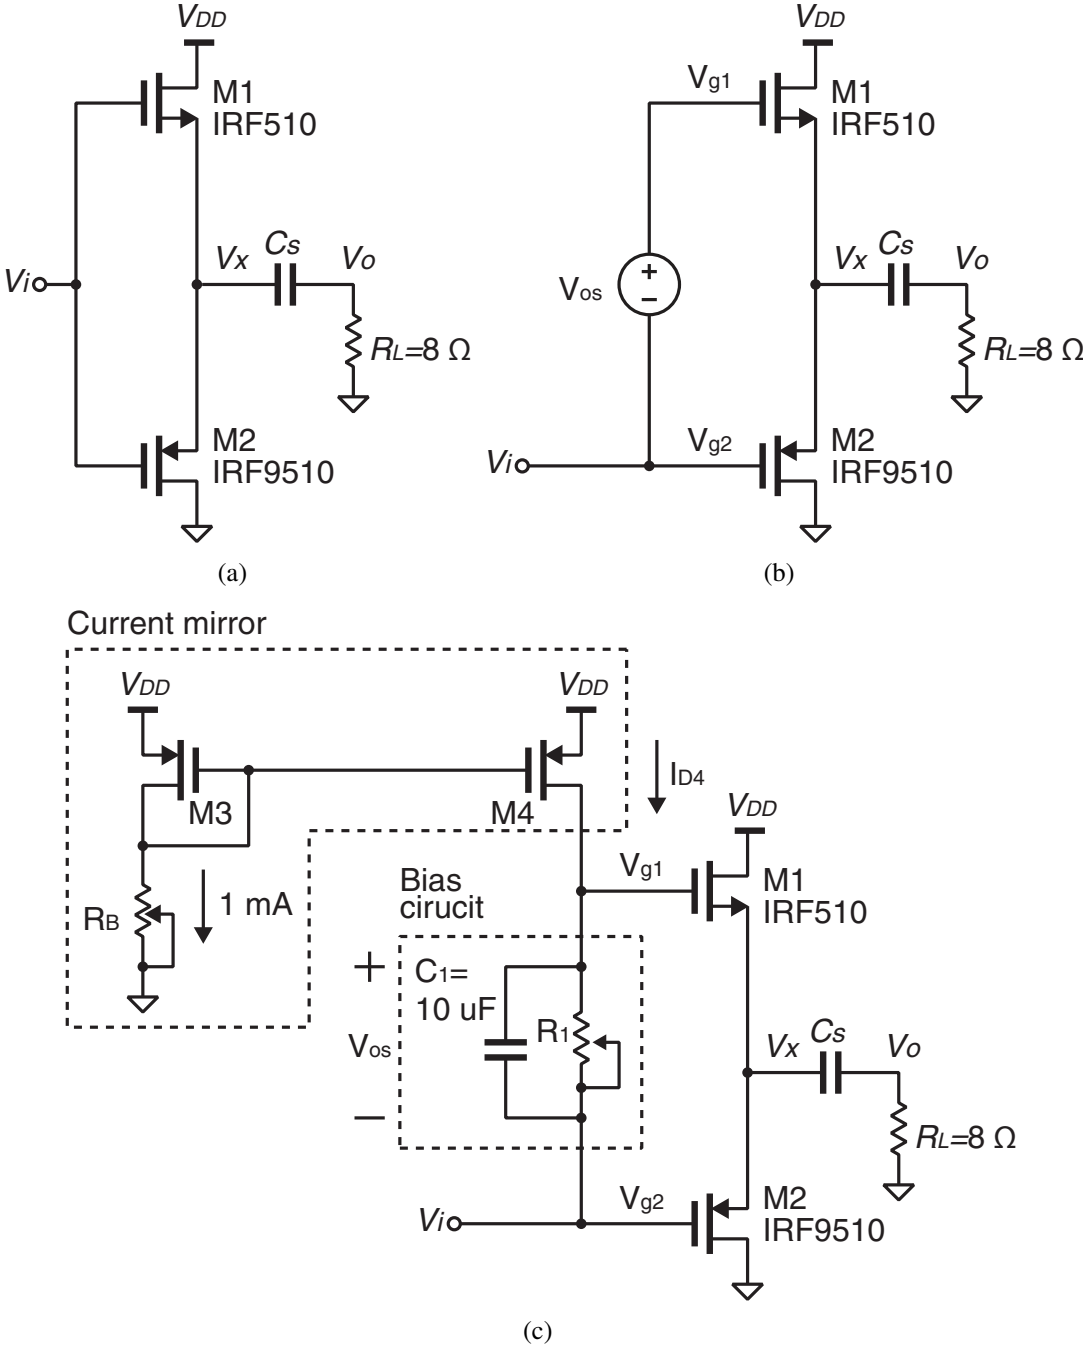

Figure 1: (a) Class B and class AB amplifiers with (b) ideal biasing and (c) bias circuit.
The push-pull power amplifier shown in Figure 1(a) can be used as a buffer because it has a very high input impedance and low output impedance. The push-pull power amplifier is basically a combination of NMOS and PMOS source followers which are responsible for sourcing and sinking current, respectively.
The problem with the push-pull amplifier in Figure 1(a) is the dead zone in which neither of the transistors turn on. This dead zone is caused by the threshold voltages of the transistors and it introduces discontinuity in the transfer characteristics. This mode of operation with a dead zone is called class-B operation.
The dead zone can be cancelled by applying a DC bias voltage (V_{os}) across the gates of the NMOS and PMOS transistors as shown in Figure 1(b). By setting $V_{os} = V_{TN} + |V_{TP}|$, the dead zone is canceled and either NMOS or PMOS transistor is always ON. Setting $V_{os} > V_{TN} + |V_{TP}|$ would also work, but consumes more power because both the PMOS and NMOS transistors can turn on at the same time. The best bias point is where V_{os} is slightly larger than $V_{TN} + |V_{TP}|$ so the dead zone is cancelled while the power consumption is kept low. This mode of operation is called class-AB operation.
The bias voltage V_{os} can be generated with a resistor (R_1) and capacitor (C_1) in parallel as shown in Figure 1(c). The bias voltage V_{os} is simply a product of I_{D4} , which is almost constant, and R_1 . The parallel capacitor C_1 provides a small-signal short between the gates of the power transistors.
2. Simulate the class-B push-pull power amplifier in Figure 1(a) with a 1-kHz 12-V_{pp} sinusoid input biased at 6 V and plot V_i , V_x , V_o , and I_{D1} . Simulate the circuit long enough (about
- Determine the value of V_{os} and R_1 in Figure 1(c) required to cancel the dead zone using the plot in the previous step.
- Simulate the class-AB push-pull amplifier in Figure 1(c) using the value of R_1 found in the previous step. Adjust the input signal source such that the output node, V_x is biased at 6 V with a $2\text{-}V_{pp}$ swing. Plot V_i , V_x , V_o , and I_{D1} . Simulate the circuit long enough (about 50 ms) to let C_s settle, and zoom in to the portion close to the end of the simulation to show a few cycles of the sinusoid. Make sure that the power transistors are biased just in class-AB region so the power consumption is kept minimum while the dead zone is cancelled. This step requires fine tuning of R_1 as well as the input signal source.